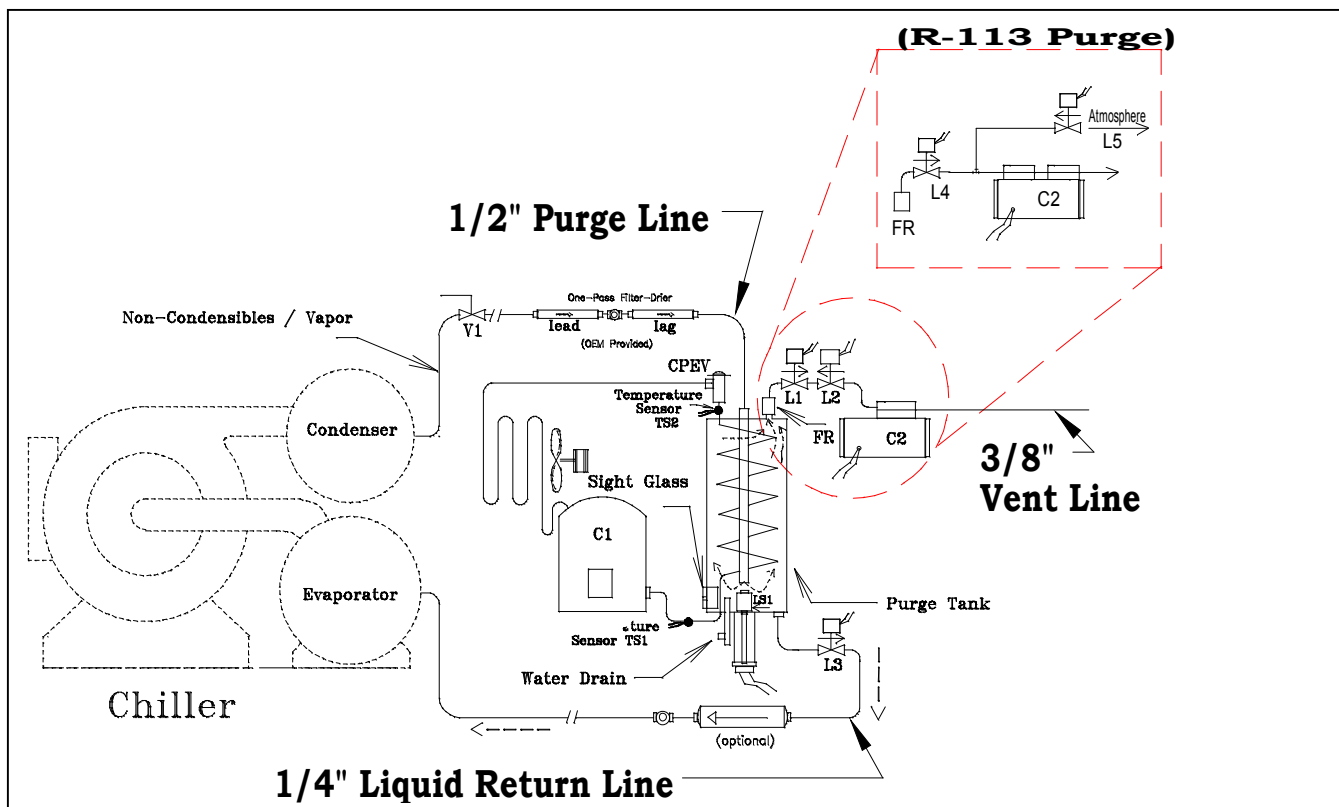

Figure 1 - Connection sizes and locations
The purge requires three separate refrigerant line connections (see Figure 1 on page 12):
The two (2) Streamline™ one pass filter-driers and moisture indicator provided with the purge **MUST** be installed in the **vapor inlet** line between the chiller and the purge unit to prevent buildup of acid and particulates in the purge tank (see Figure 1 on page 12). **DO NOT OMIT OR SUBSTITUTE!**
The liquid refrigerant return line runs between the evaporator's original liquid return angle valve and drain back solenoid valve L3 (see Figure 1 on page 12) or the outlet of the optional liquid line filter-drier, if used. Use 1/4" refrigerant-grade copper tubing.